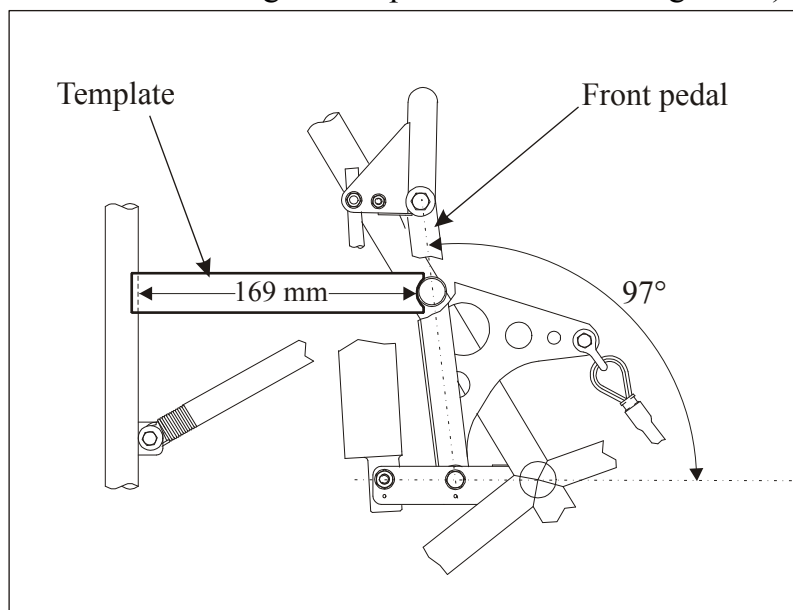

Figure 16 Front Pedal Template
- 23 Fix the front pedal in almost vertical position (97° relative to the footrest using the template as shown on Figure 16).